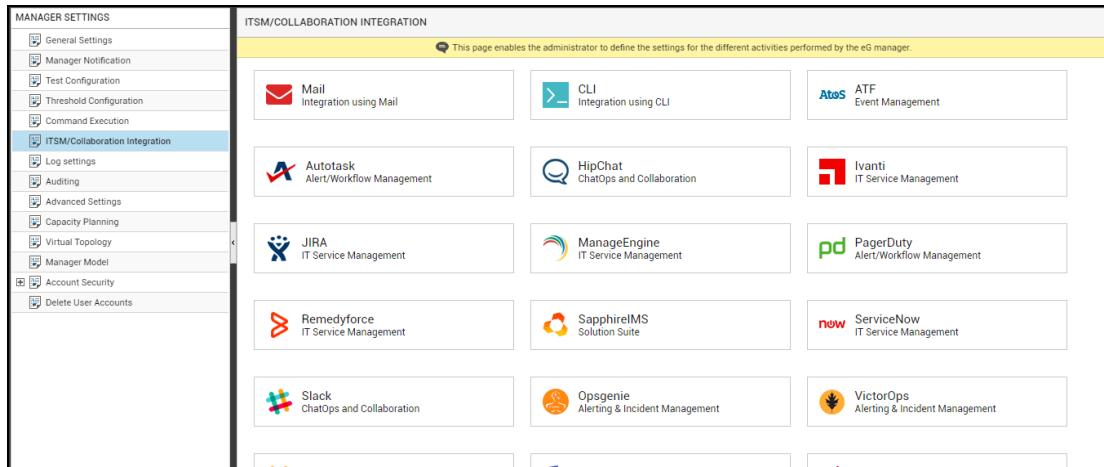
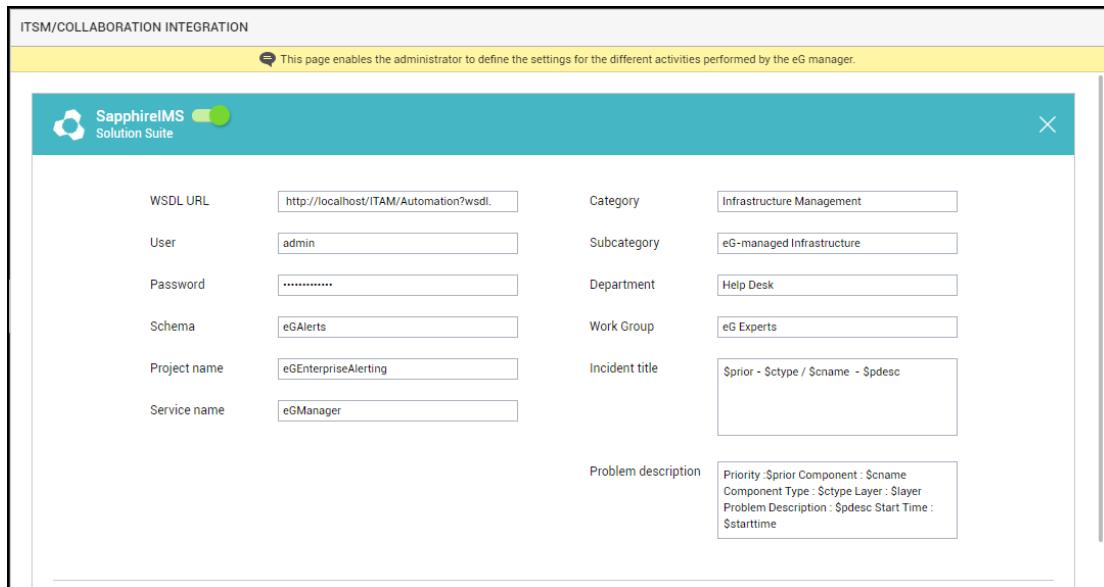

Figure 5.29: Viewing the ITSM/Collaboration tool options
Figure 5.30: Configuring integration with SapphireIMS
- Figure 5.29 will then appear. From the **MANAGER SETTINGS** tree in the left panel of Figure 5.29, select the **ITSM/Collaboration Integration** node. The third-party ITSM/Collaboration tools that eG Enterprise can integrate with will be listed in the right panel.
4. Now, click on the **SapphireIMS** option in the right panel (see Figure 5.29). A **SapphireIMS** section will now appear in the right panel (see Figure 5.30).
5. To enable integration with SapphireIMS Service Desk, first slide the **SapphireIMS** slider in Figure 5.30 to the right.
6. Then, specify the following in Figure 5.30:
7. Finally, click the **Update** button in Figure 5.30 to save the changes.